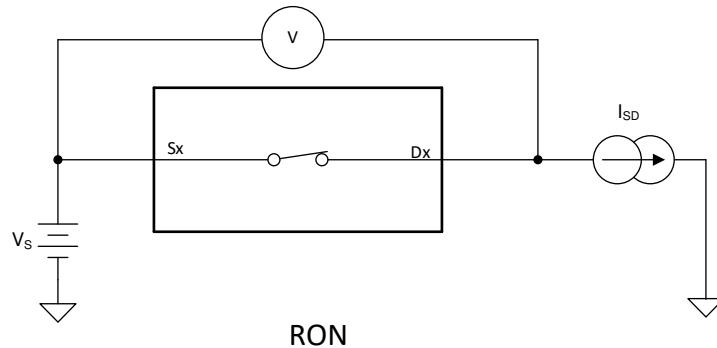

图 6-1. On-Resistance
The on-resistance of a device is the ohmic resistance between the source (Sx) and drain (Dx) pins of the device. The on-resistance varies with input voltage and supply voltage. The symbol R_{ON} is used to denote on-resistance. 图 6-1 shows the measurement setup used to measure R_{ON} . Voltage (V) and current (I_{SD}) are measured using the following setup, where R_{ON} is computed as $R_{ON} = V / I_{SD}$: